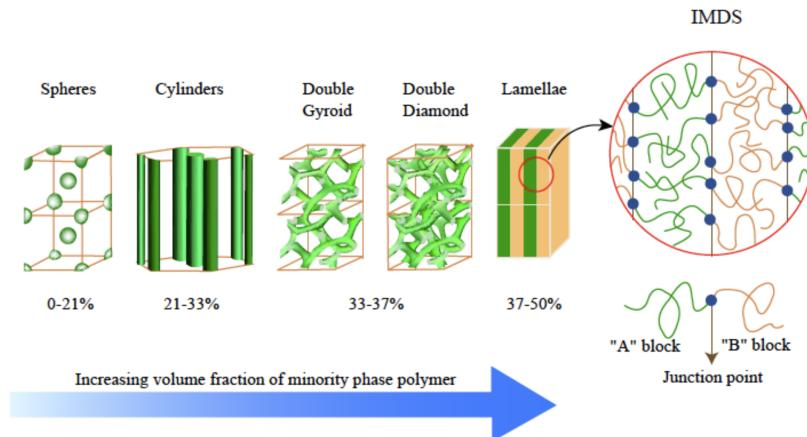

Figure 2.20: Microphase morphologies in diblock copolymers.
- In contrast to Figure 2.20, 40-60% gets you a lamellar state. This accounts for the fact that going on either side of 50% is equivalent.
- In the context of Figure 2.20's green-yellow-green-yellow lamellae, λ is the width of one pair of green-yellow lamellae back to back. You can think of this as a kind of "repeat unit," the smallest structure length necessary such that upon repetition of that structure, the full lamellar mesophase is formed.